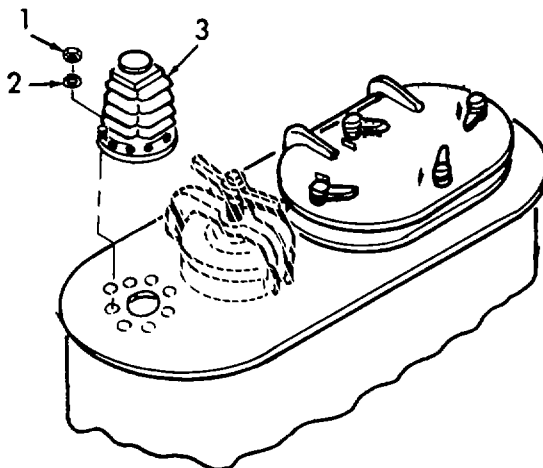

Figure 3-2. Relief Valve, Removal/Installation.
a. Removal. (Refer to figure 3-2).
- (1) Remove eight nuts (1) and eight lockwashers (2).
- (2) Remove relief valve (3).